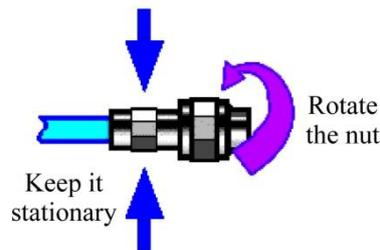

Fig. 3.5 Connection Method
**Step 2:** as shown in Fig. 3.5, horizontally move two connectors to make them connected smoothly. Tighten the connector nut by means of rotation (do not rotate the connector). Avoid relative rotation of connectors during connection.